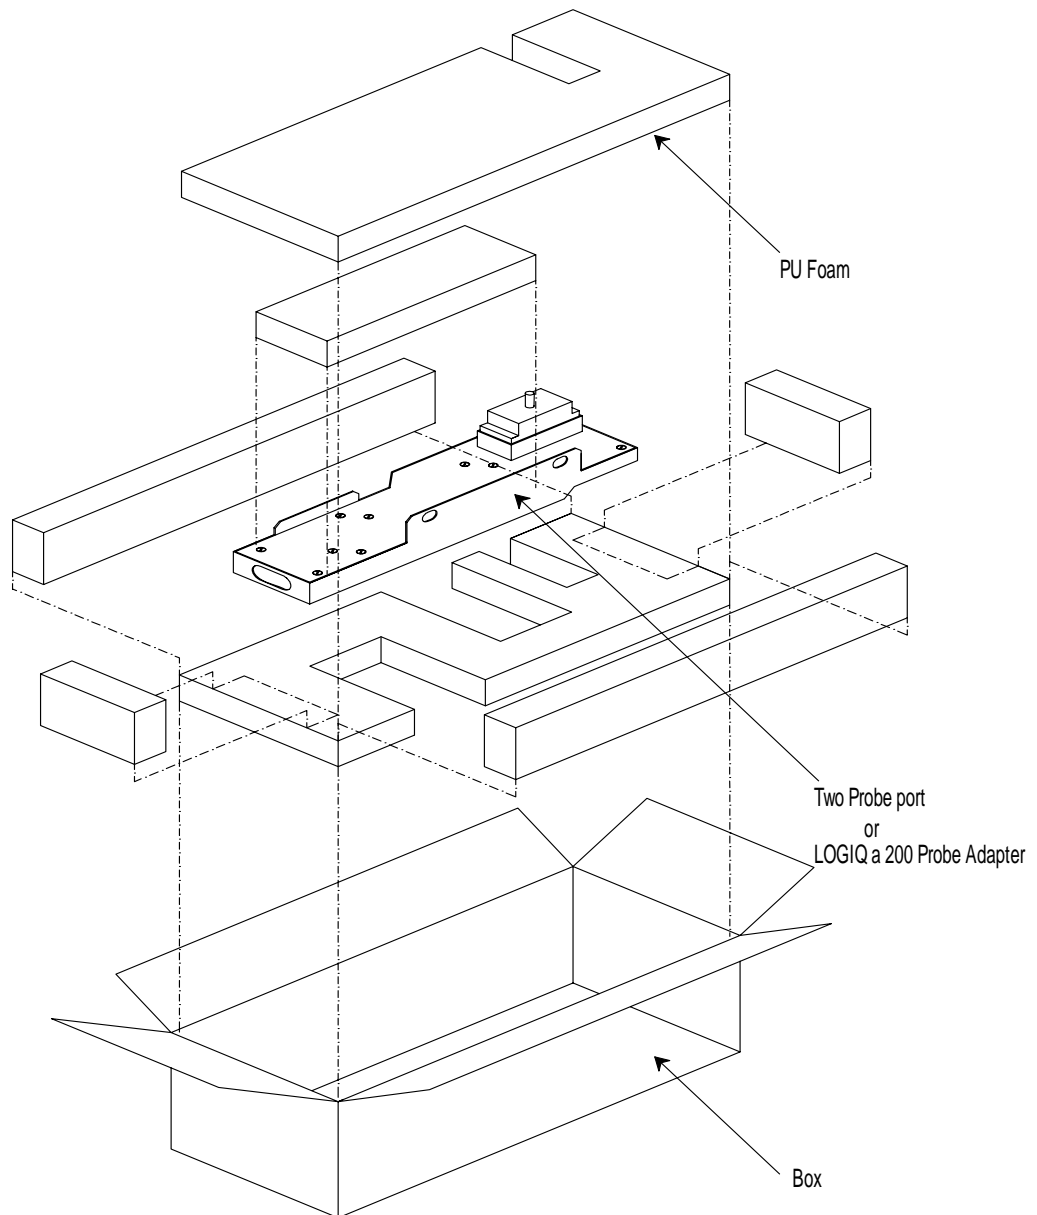

Figure 3-6 Unpacking Two Probe Adapter or LOGIQ α200 Probe Adapter
- 2.) Remove the PU Foams inside the two probe port or LOGIQ α 200 Probe Adapter box (Refer Figure 3-6)
- 3.) Take out the two probe port or LOGIQ α 200 Probe Adapter (Refer Figure 3-6)